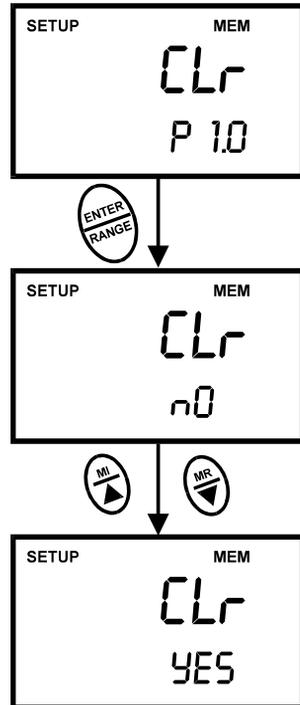

Figure 23 - P1.0: Memory Clear
4. Press the **MI/▲** or **MR/▼** keys to toggle between NO and YES. NO retains current memory; YES clears all memory. See Figure 23.